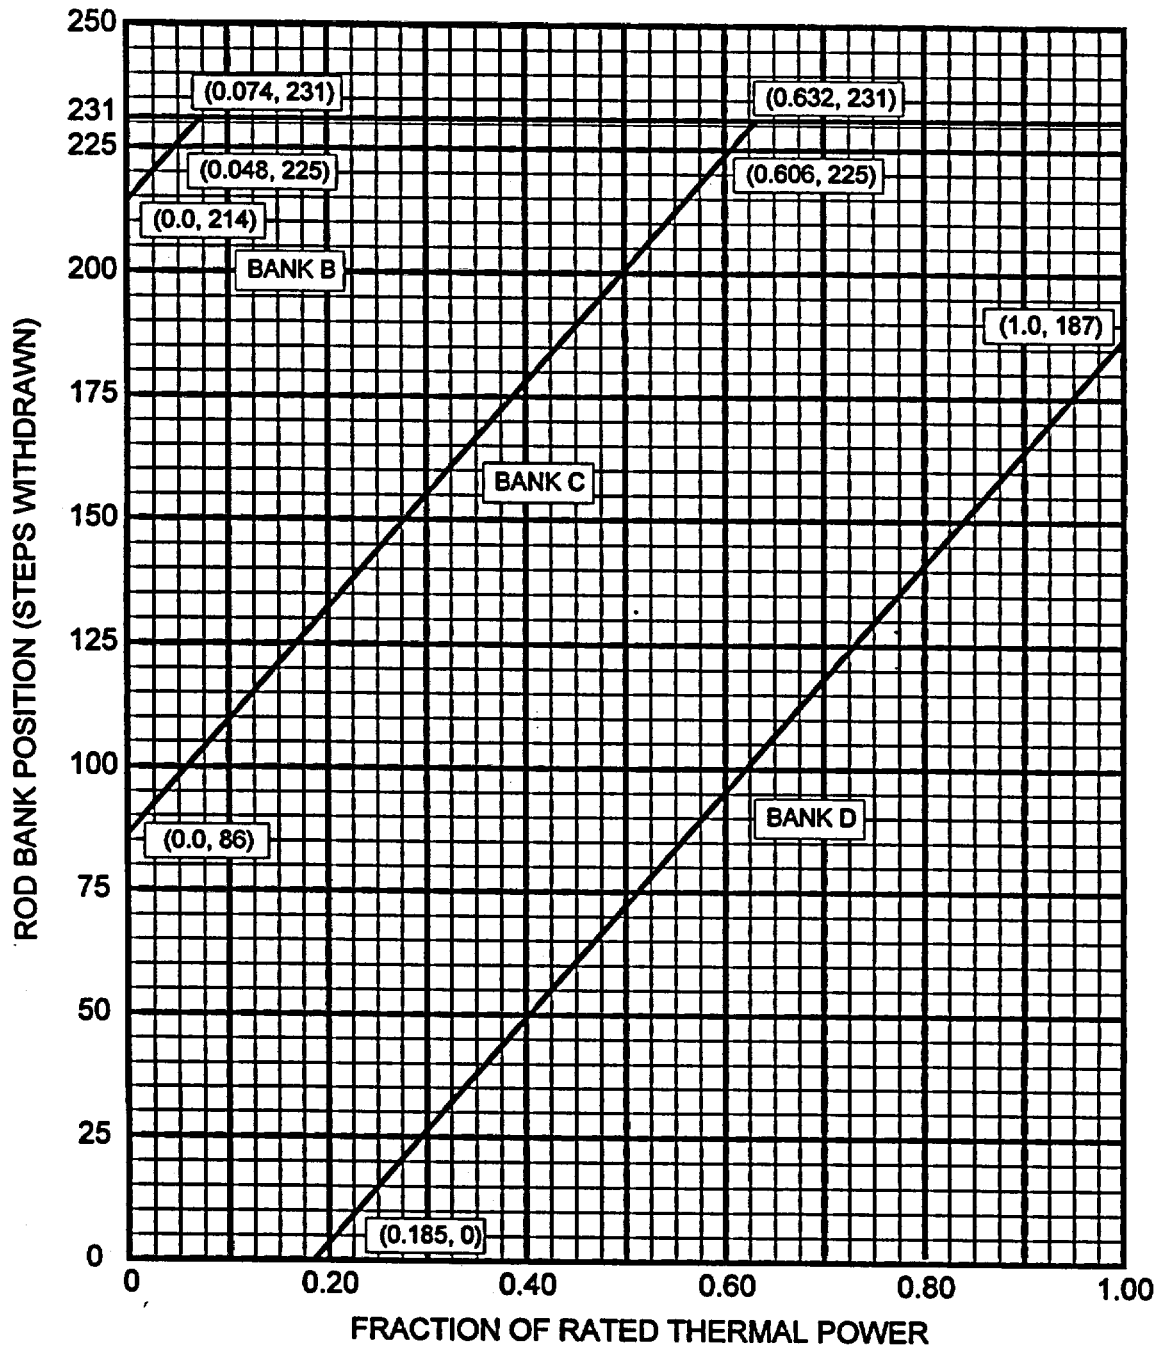

Figure 1
2.3.1 The control banks shall be limited in physical insertion as shown in Figure 1.